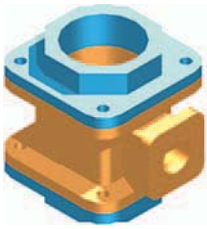

Fig. 17.8 Second example UCS – step 11 + rendering
11. Turn layer **0** back on and move the top into its correct position relative to the main part of the valve. Then with the **Mirror** tool, mirror the top to produce the bottom of the assembly (Fig. 17.8).